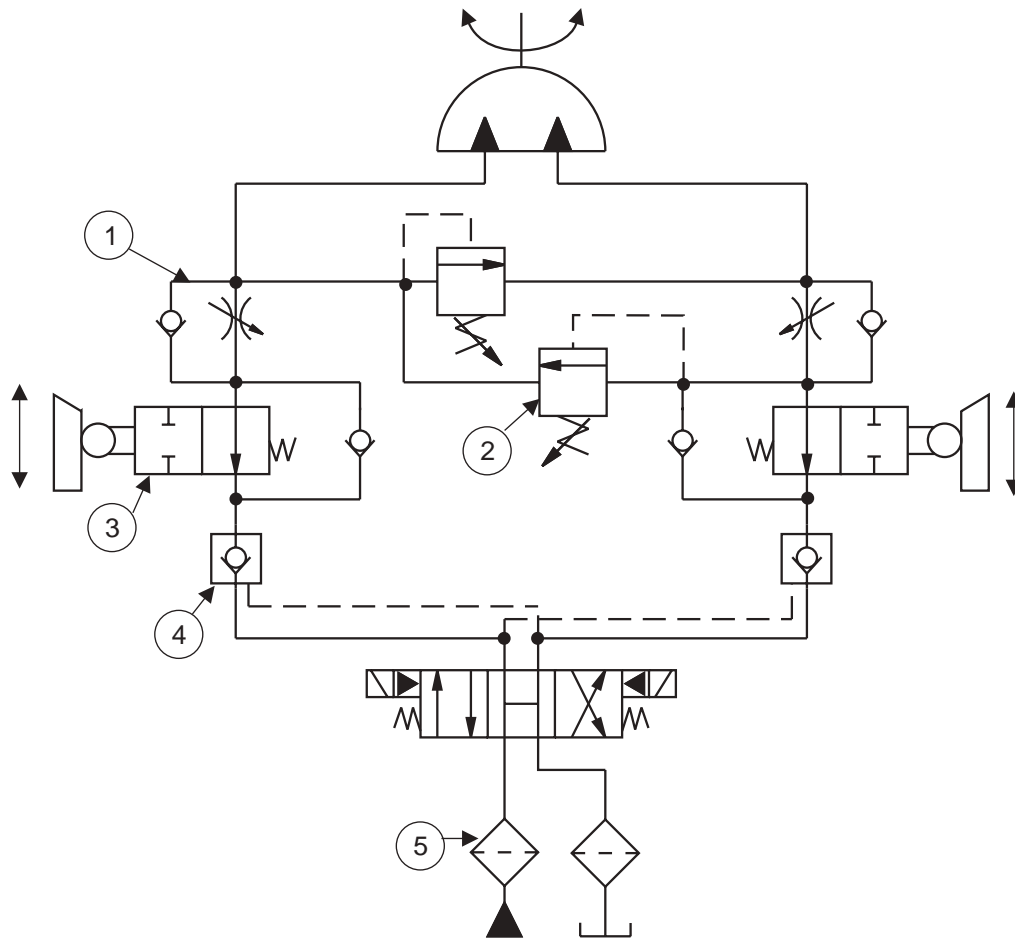

Figure 17 Hydraulic rotary actuator circuit
Figure 17 is a composite drawing showing general recommendations for sample circuitry. It is intended as a guide only. Flow control valves (1) in the meter-out position provide controlled actuator velocity. Care should be taken if the load moves overcenter, as the combination of load and pump generated pressure may exceed the actuator rating.
All of the considerations from the composite hydraulic circuit (Fig. 17) are still relevant. Crossover relief valves (3) should be installed if there are uncontrolled sudden stops in mid-stroke, and caution should be exercised when running overcenter, running with high speeds, or moving high inertia loads. Filtration (4) is still a consideration, but the actuator requirements (ISO 17/14 class) are usually less demanding than the filtration requirements of today’s electrohydraulic control valves.